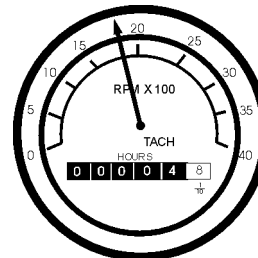

Figure 62. Engine Tachometer
18. The tachometer (Figure 62) will indicate the speed of the engine when the generator is operating. Under normal operating conditions this speed is approximately 1800 RPM's.